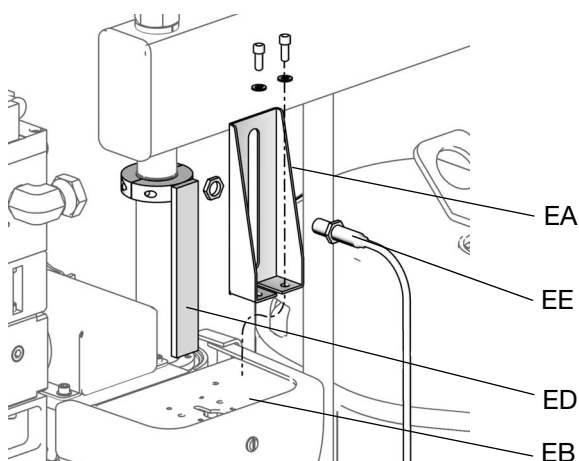

FIG. 9
3. To measure either drum low or drum empty, attach one sensor (EE) to the sensor bracket (EA).
4. Attach the actuator (ED):
- a. *For D200, D200s, D200si and D200i supply systems:* Attach the actuator (ED) to the ram piston rod, near the top, so it passes in front of the sensor (EE) at the correct level for drum low or drum empty. See FIG. 9.
- b. *For D60 and D60i supply systems:* Attach the actuator (ED) to the ram piston rod, near the top, so it passes in front of the sensor (EE) at the correct level for drum low or drum empty. Flip actuator bracket (ED) so that it points upwards instead of downwards to allow it to pass the sensor (EE). See FIG. 9.